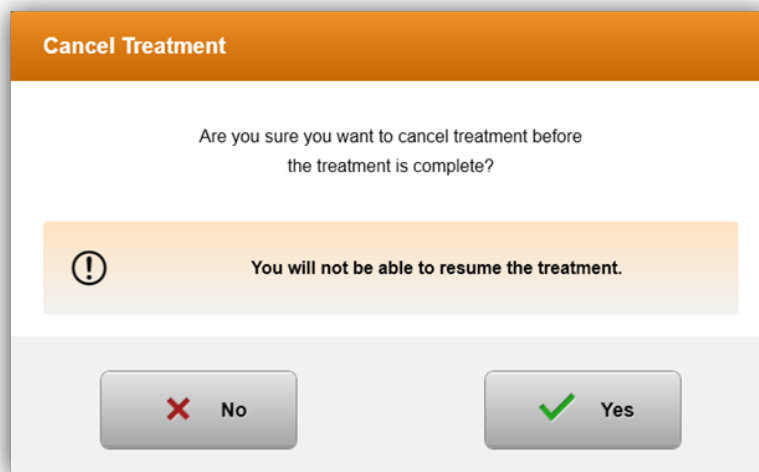

Figure 3-29. Confirm Cancel Partial Treatment
- A warning pop-up will appear when “Cancel treatment” is selected mid-treatment as shown in Figure 3-29.